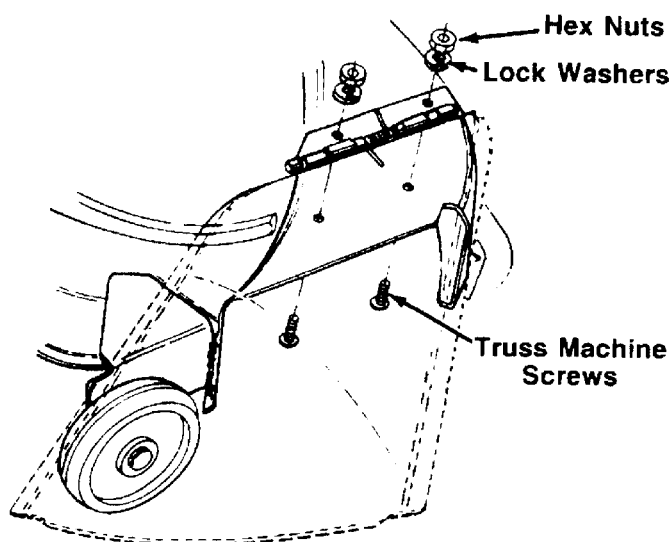

FIGURE 10.
- ← Place the chute deflector in position as shown in figure 10. Secure with hardware just removed.